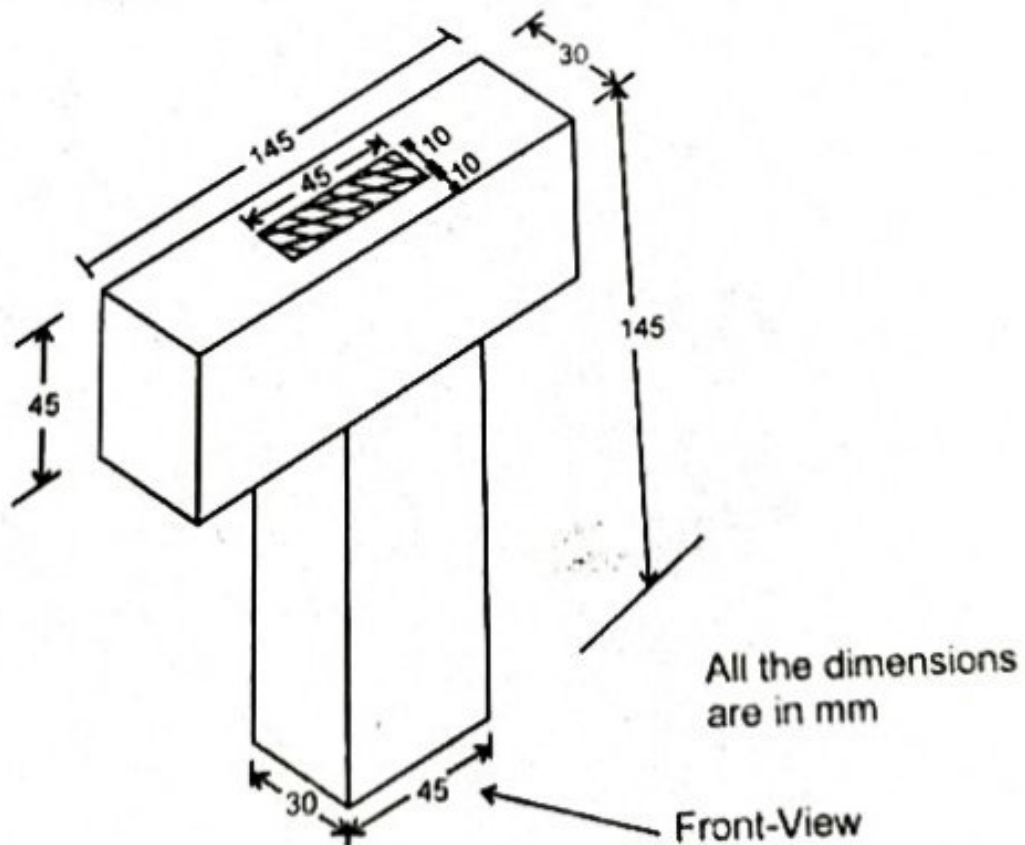

Figure No. 2 / चित्र संख्या 2
6. (a) Figure No. 2 shows the pictorial view of a "Mortise and Tenon" wooden joint. Draw its front view, top view and side view (Arrow shows the line of sight for front view). (Use 1st angle projection). 10